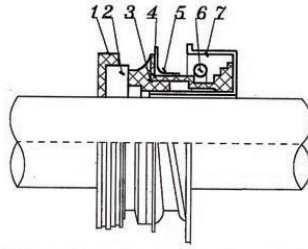

Fig. 2-3
4. The distance between impeller and the surface of the current guide must be more than 1 mm so that it can be used after adding a sheave. See Fig 2-3